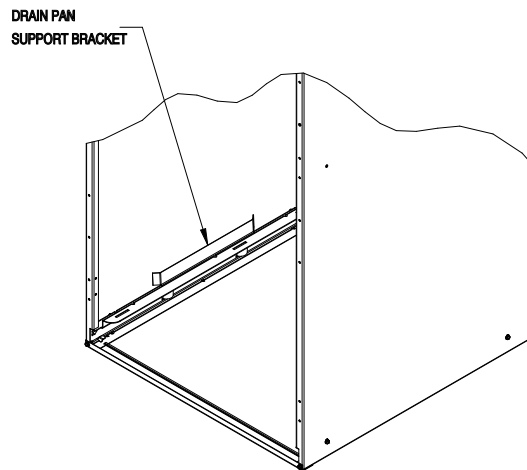

Fig. 7 – Drain Pan Support Bracket
5. Remove horizontal drain pan support bracket from coil support rail on left side of unit and reinstall on coil support rail on right side of unit (Fig. 7).
- b. Remove air splitter (B) from coil seal assembly by removing 3 screws (Fig. 7 inset).
- c. Remove filler plate (A) and install air splitter (B) in place of filler plate.
- d. Install filler plate (A) as shown in horizontal right application.
- e. Remove condensate troughs (C) and install on opposite tube sheets.